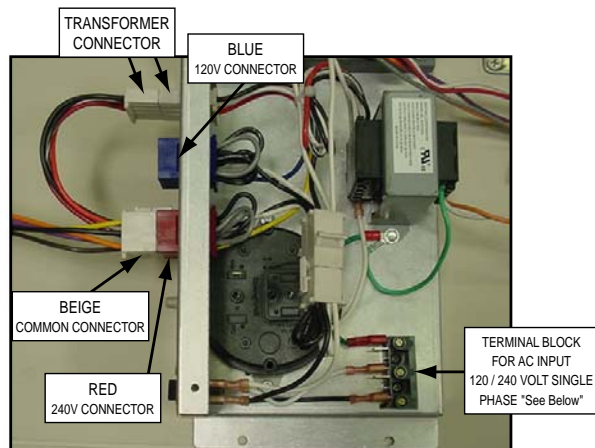

Figure 16.
- The MiniMax NT LN heater is prewired for 240-volt AC connection using the “RED” connector and the “BEIGE” common connector; see below, **Figure 16**. For 120-volt AC supply, remove the “BEIGE” common connector and plug it into the “BLUE” common connector.
You need to open the right door then remove the control panel cover for servicing the Line Terminal Block as shown in Figures 16 & 17, (see item 40 in the exploded view on page 33).